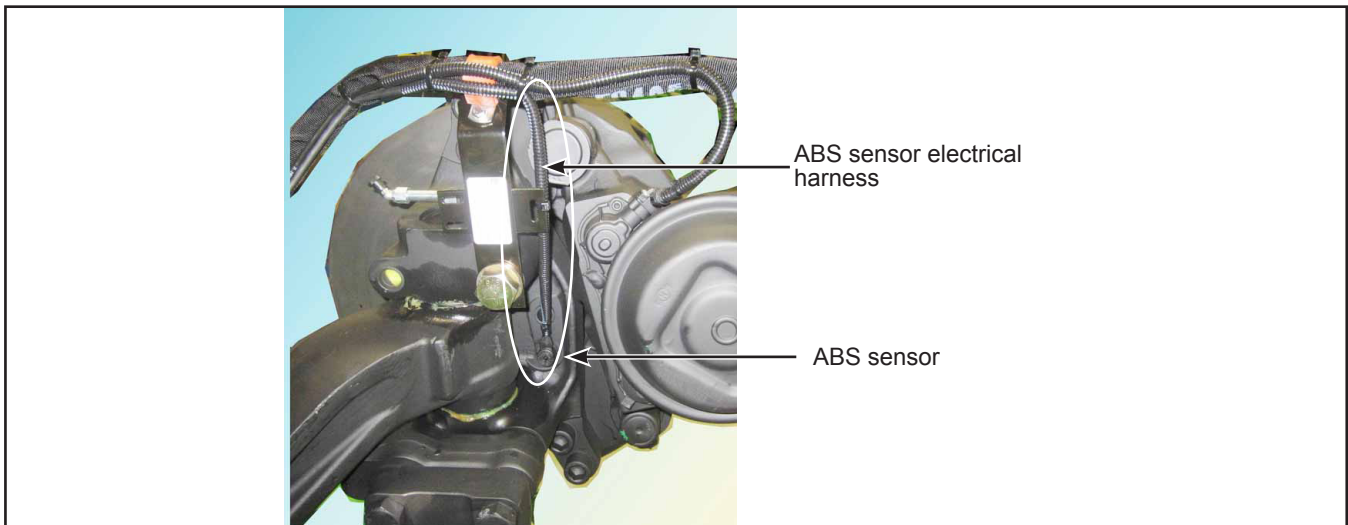

Figure 12 - ABS Sensor Electrical Harness Location
- 1.2.2. Ensure that the position of the electric harness attaching points is as described in this document. See Figures 12 to 20.
2.15. Locate the ABS sensor electrical harness on the front axle. See Figure 12.